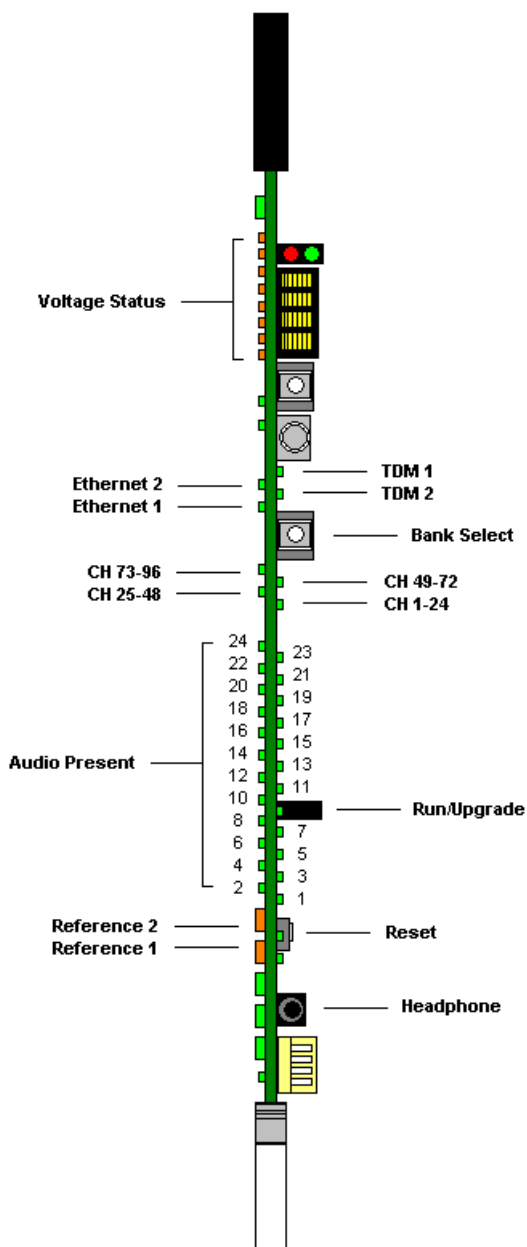

Figure 2-6: EMR-IP96 (48)-AESU (B) Front Card Edge
The EMR-IP96 (48)-AESU (B) front card edge has some key controls and indicators that can help in the installation and debugging processes. Figure 2-6 and Table 2-3 show the card edge and describe the expected behavior of each component. If the status indicators do not behave as described it can be a sign of installation or configuration issues.